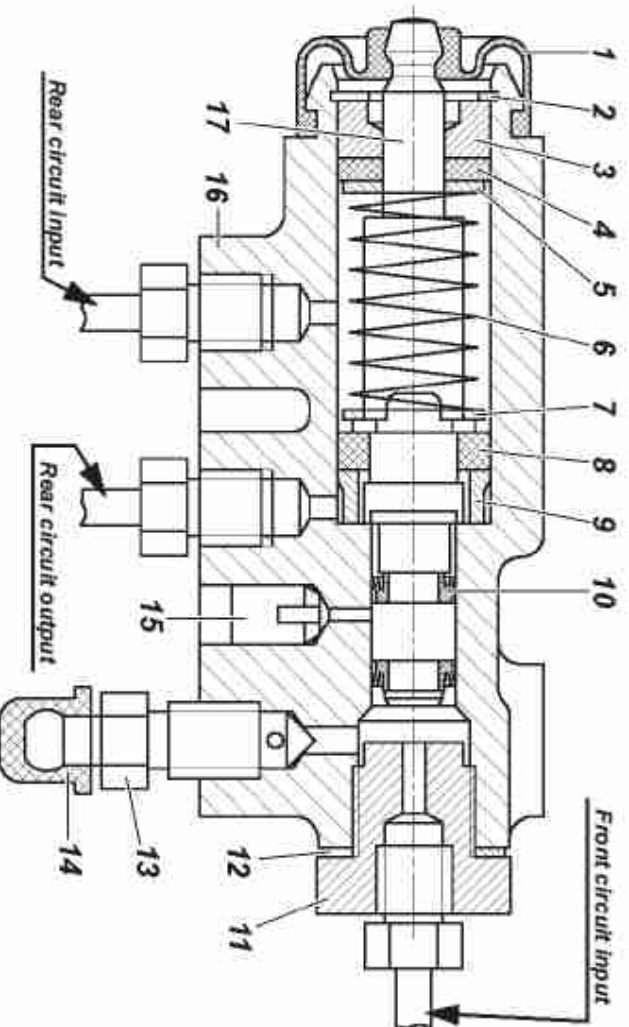
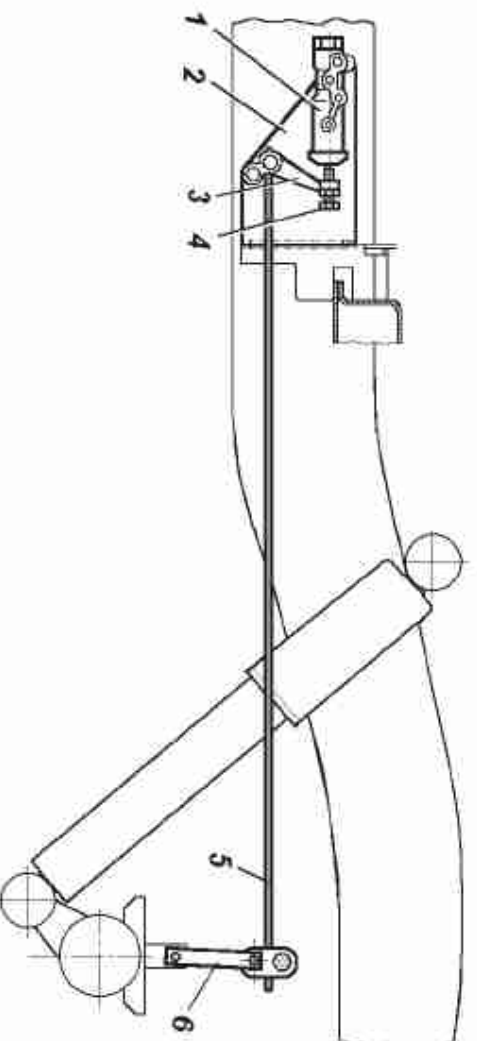

Fig. 9.36. Proportioning valve:
Fig. 9.37. Proportioning valve drive:
Tighten the bolts of brake shields when the hubs are removed. **Proportioning valve (Fig. 9.36).** During maintenance, check the function of the proportioning valve. Clean it from the dirt and check the safety of its fastening. Visually inspect that the proportioning valve and its parts have no damage, there is no leakage of the brake fluid and no backlashes in the pillar coupling with the resilient lever and the rear axle bracket.
During the operation and replacement of back leaf-springs, adjust the force of flexible arm 5 (Fig. 9.37) to the valve piston. For adjustment do the following:
3. Tighten bolt 4 (see Fig. 9.37) until it touches the regulator piston end 17 (see Fig. 9.36) by screwing the adjusting bolt for 1...11/3 turn (6-8 flats of the bolt head).
5. Check adjustment correctness during motion of the vehicle. While going on a straight level road with a dry surface, brake the vehicle until the wheels lock. If the valve is in order and drive adjustment was done correctly, the front wheels should be blocked slightly earlier than the rear ones. If the rear wheels are blocked earlier, unscrew bolt 4 (see Fig. 9.37) by 1-2 flats of the bolt head and check the brakes in motion again.